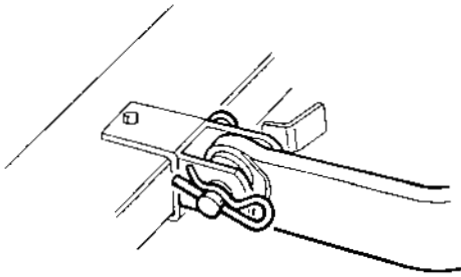

Fig. 11
- 1 Attach the lower lift arms of the three point hitch and secure with clips as shown in Fig. 11.